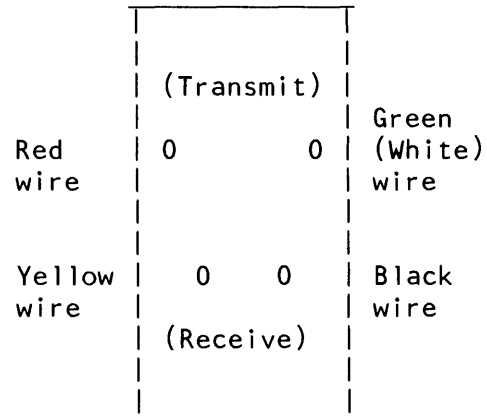

Figure 1
The transmit level is measured between the R (red wire) and GN (green or white wire) at the 283-B plug (see Figure 1).
- Disconnect the 283-B plug from the line and plug it into the dB meter. If your meter does not have a plug socket, attach the meter leads to the two transmit prongs (see figure 1).